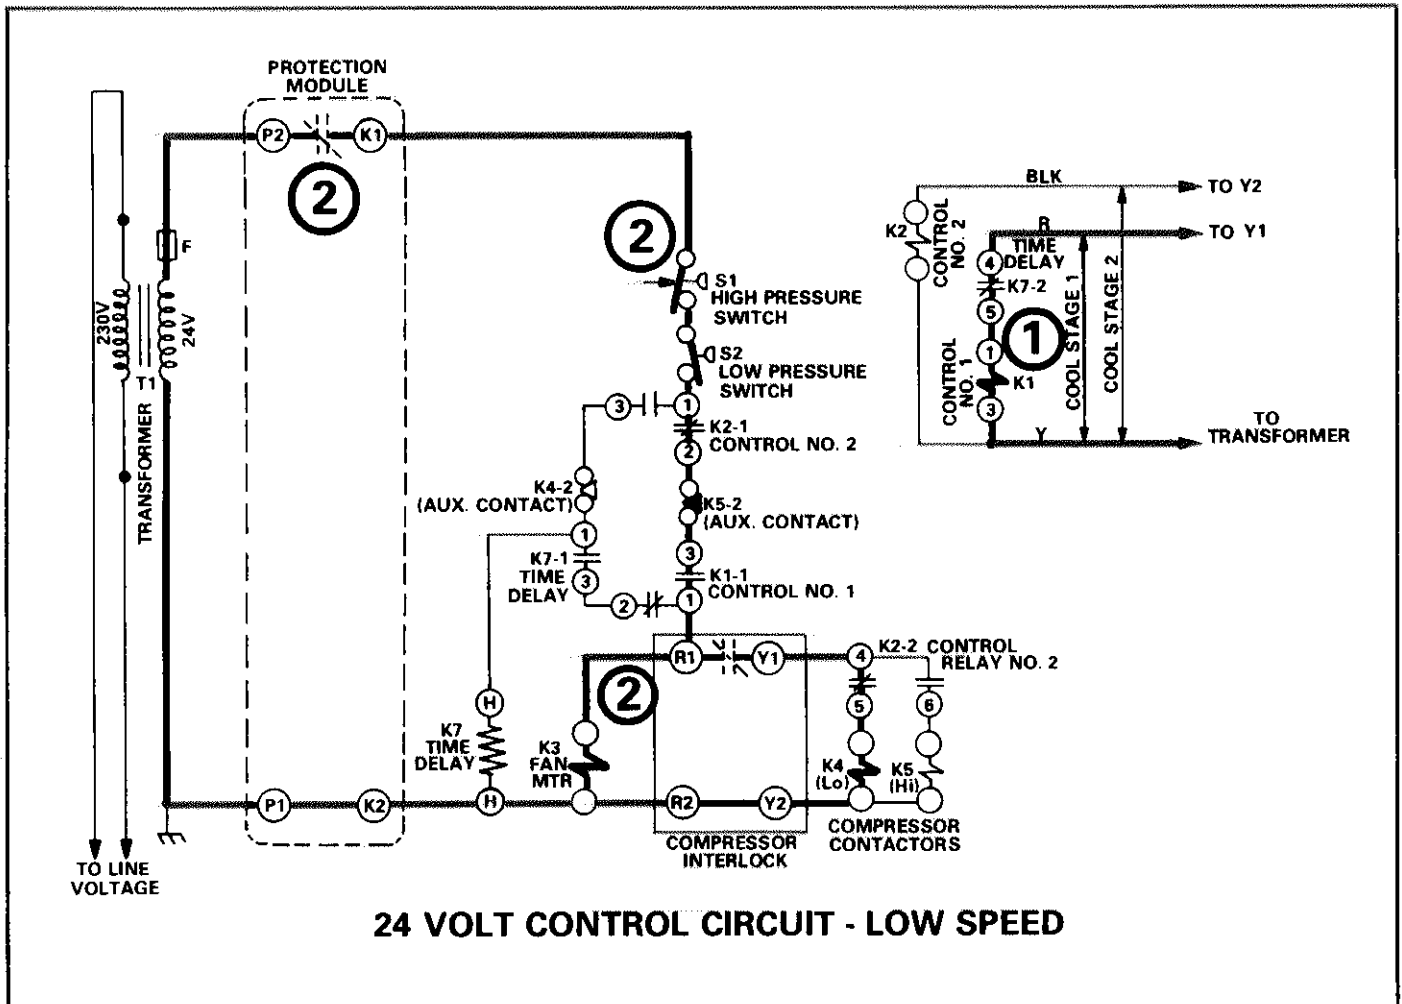

FIGURE 13
- A - 24 Volt Control Circuit (Figure 13)
#### A - 24 Volt Control Circuit (Figure 13)
The 3 $\phi$  low voltage circuits operate the same as the 1 $\phi$  low voltage circuits. (Refer to figures 13 & 17)